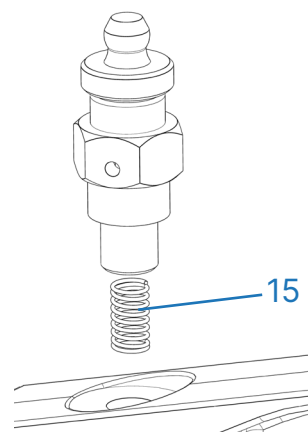

Figure 12
1. Remove the valve body assembly with a 14mm wrench. (See Figure 12)